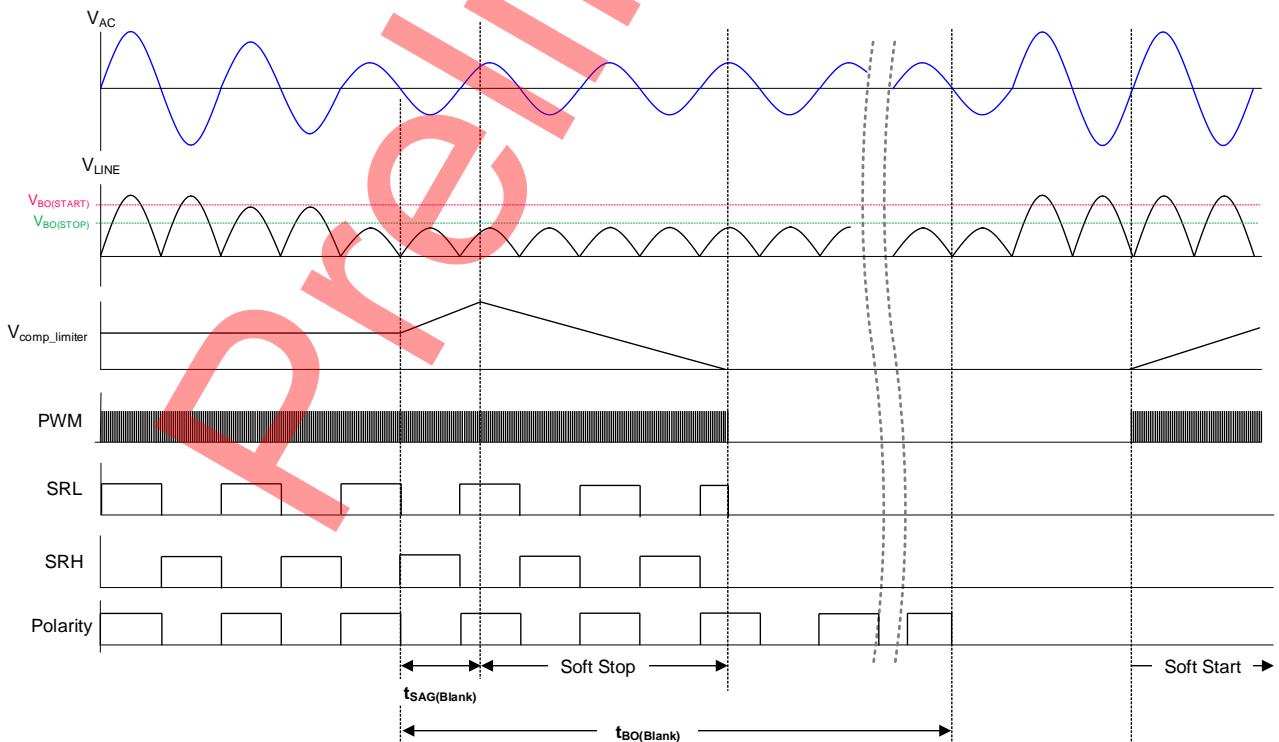

Figure 25. Brown-out (BO) and Line sag
**20. Brown-out (BO) and Line sag**
Figure 25 shows the IC feature set includes line voltage Brown-out (BO) and Line sag (SAG) detection. Both BO and SAG are activated when Line voltage falls below  $V_{BO(STOP)}$ . When  $V_{LINE} > V_{BO(START)}$ , the controller will return from the BO or SAG fault state.